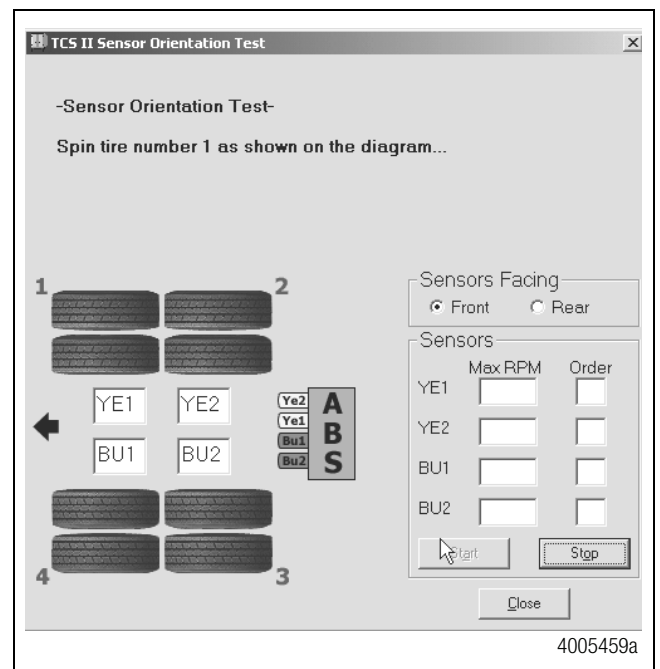

Figure 25
6. Click on **Start** to begin the test. Figure 25.